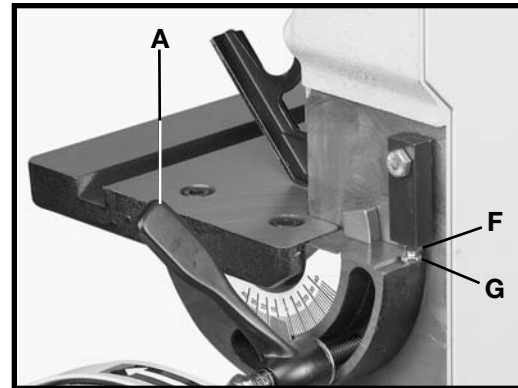

Fig. 22
4. To adjust, loosen the table tilting lock handle (A) Fig. 22. Loosen the lock nut (F) Fig. 22, and turn the adjusting screw (G) in or out until table is 90 degrees to the belt.
5. Tighten the lock nut (F) Fig. 22, and the lock handle (A) Fig. 22.
6. The stop (G) Fig. 22 ensures that the belt table can rapidly return to the 90 degree position after the table has been tilted.